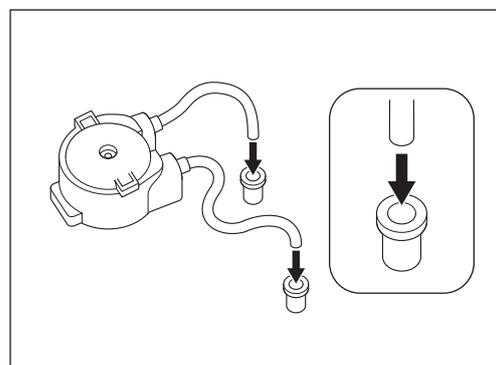

Fig. 54
- 6) Mount the Connector Rings in the Irrigation Tubes of the new Irrigation Pump (option). Make sure the Ring is oriented correctly (Fig. 54).